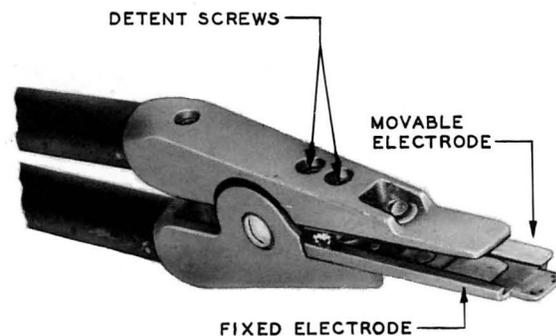

Fig. 3 – No. 577A and 577B Welding Pliers
2.04 These welding pliers shown in Fig. 3 are similar except that the leads of the No. 577A pliers are permanently attached to the No. 102A current-supply set of the No. 1004A tool kit while the leads of the No. 577B pliers can be disconnected from the No. 102B current-supply set of the No. 1004B tool kit. The welding pliers are arranged to hold one fixed and one movable electrode. Different combinations of fixed and movable electrodes are required for welding contacts on various apparatus, as covered in Part 5 of this section. The welding pliers are furnished with one No. 20 movable electrode and one No. 11 fixed electrode.